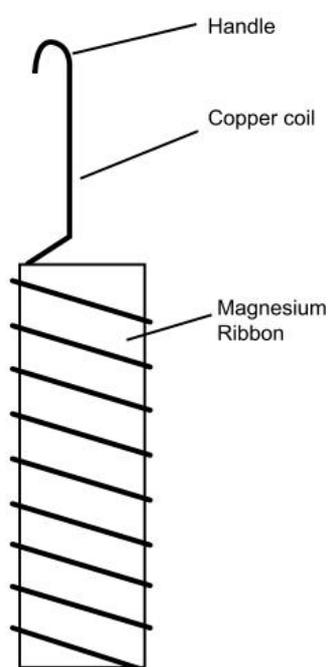

Figure 40.1
2. Fold the magnesium ribbon and place it in the coil as shown in Figure 40.1.